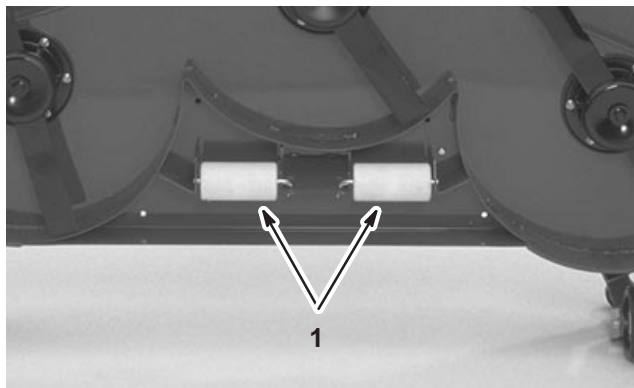

Figure 16
1. Remove the cotter pins securing the roller shafts to the brackets on the underside of the deck (Fig. 16).